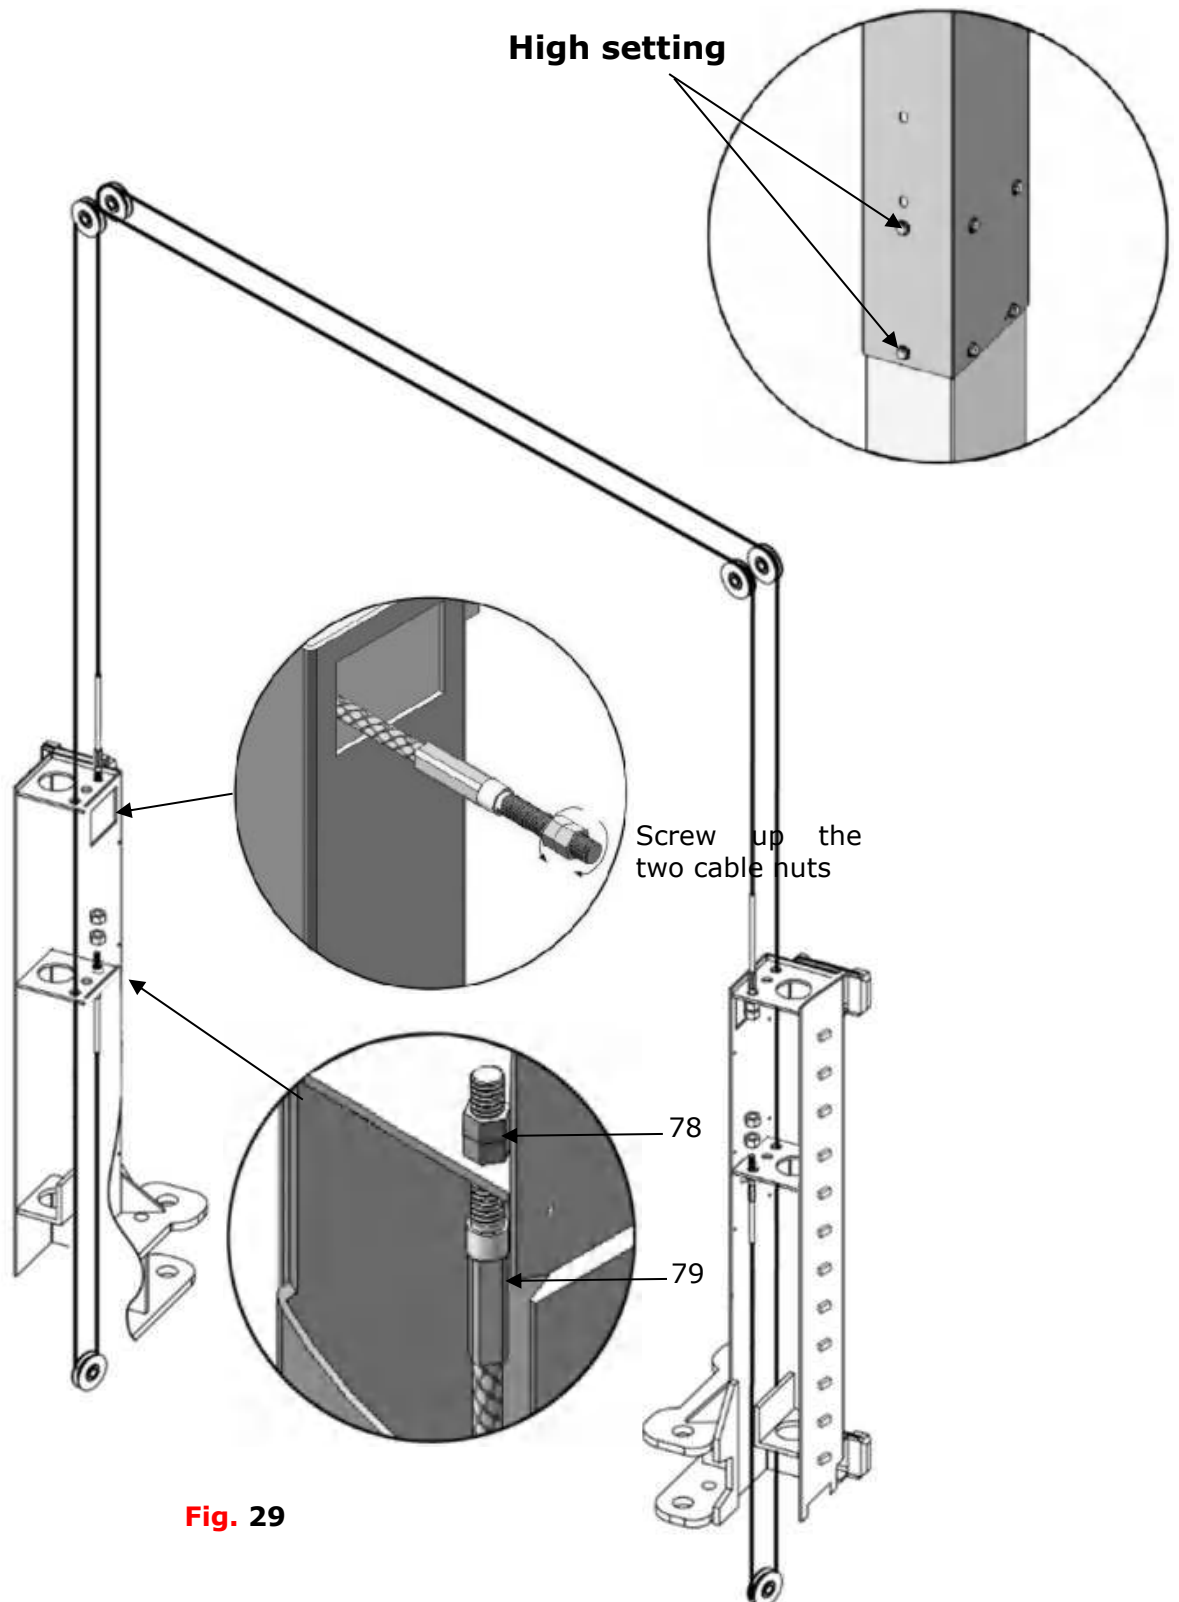

Fig. 29
2.1 OHX-10H cable connection of high setting(see fig 29).